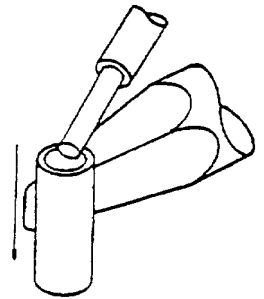

Figure 17. Solder Cup Termination (Sheet 2)
63. **SOLDER CUP.** A solder cup is a hollow cylinder at the tubular end of a terminal or solder contact in which a conductor is inserted and soldered in place (Figure 17).